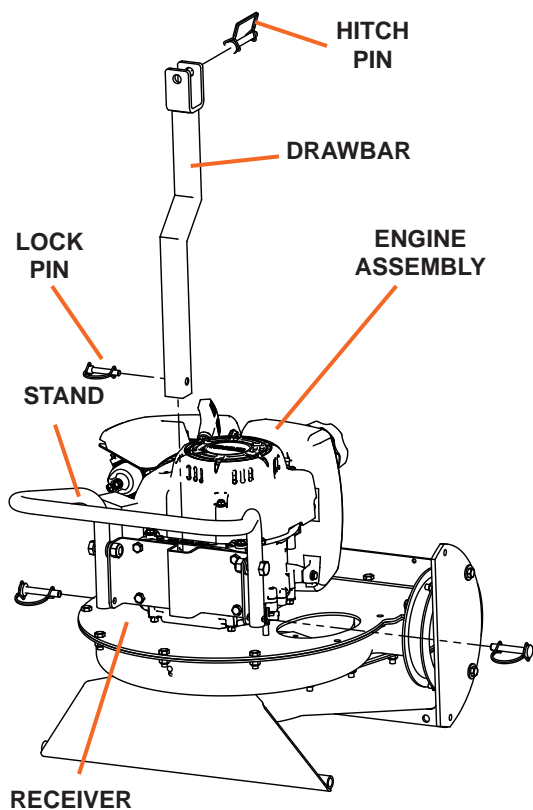

Figure 1
1. Deploy Stand (see Figure 1).